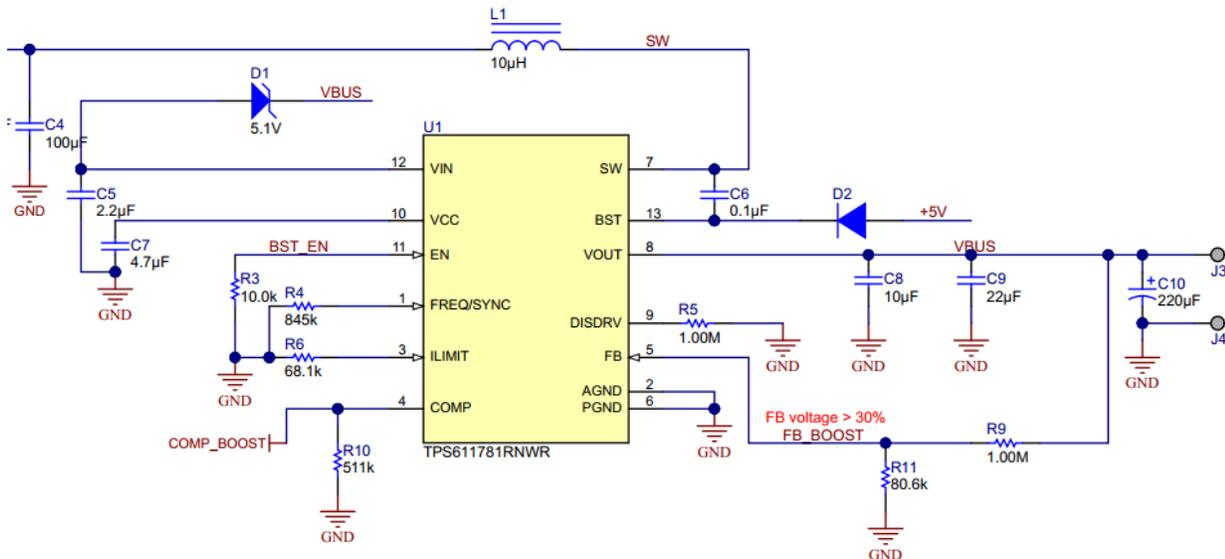

Figure 2: Schematic of TPS61178x
The TPS61178x is a 20V, full integrated boost converter. Details about the operating principle of the TPS61178x can be found in its datasheet. The schematic of TPS61178x is shown in Figure 2:
- The TPS61178x triggers under-voltage lockout if the voltage in its VIN pin is lower than 2.7 V. So the VIN pin is powered by VBUS in Figure 2. It is suggested that the voltage at VIN pin is at least 2V lower than VBUS.